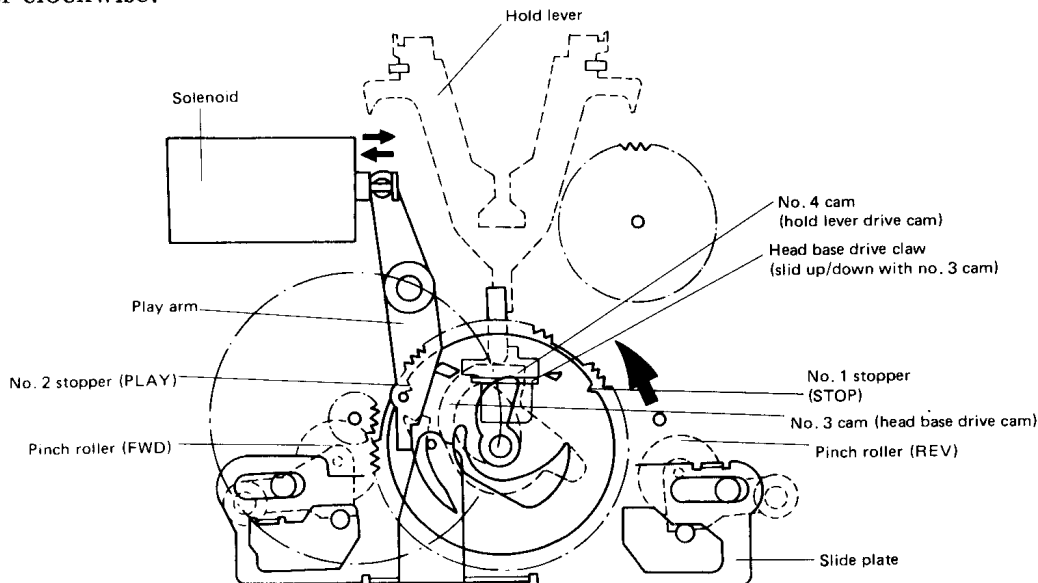

Fig. 10-4 Change from stop to forward playback mode
- (1) When the FWD PLAY button is pressed, current is passed to the capstan motor and the solenoid which is activated (current applied for 60ms) to turn the play arm counter clockwise.
- (2) Since the play arm is thus disengaged from the no. 1 cam gear stopper, the cam gear is forced counter clockwise by the hold lever to engage and consequently be driven by the capstan gear.
- (3) As a result of the rotational movement of the play arm and cam gear, the slide plate pin moves along route no. 1 (.....>).
- (4) Cam gear rotation also results in no. 3 cam pushing the head base drive claw upwards.
- (5) When the cam gear has been rotated by about  $235^\circ$ , no. 2 stopper on the cam gear meets the play arm pin and is subsequently stopped with the deck now in forward playback mode (see Fig. 10-4). In this condition,
- (1) If the STOP key is pressed when changing from forward, playback to music search mode, the solenoid is deactivated and the play arm pin is disengaged from no. 3 cam gear stopper, resulting in the cam gear being forced counter clockwise by the head base.
- (2) Since the hold lever is released from no. 4 cam when the cam gear is rotated, the hold lever is dropped suddenly resulting in the two hold lever prongs engaging the reel drive gear (FWD, REV) to apply the brake.
- (3) The cam gear rotation also results in the head base and pinch roller being dropped to the STOP position by no. 3 cam.
- (4) After the cam gear has been rotated by about 105°, the play arm pin meets no. 1 stopper bringing the cam gear to a stop and putting the deck into stop mode (see Fig. 10-4). In this condition, the brake is released by no. 4 cam.